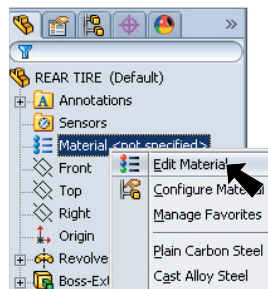

Fig. 31
Step 2. **Right click** **Material**  in the Feature Manager and click **Edit Material**, **Fig. 31**.